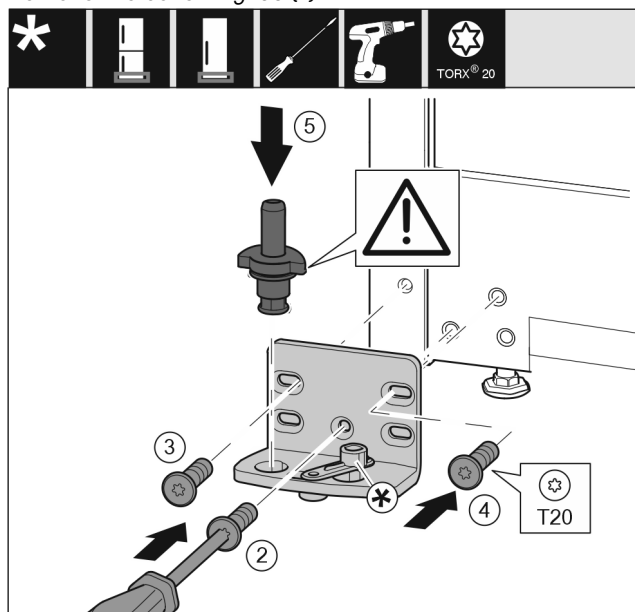

Fig. 36
- Place the bearing bracket on the other side and screw it on with a T20 screwdriver. Start with screw 2 at the bottom in the middle. Fig. 36 (2)
- Screw in screws 3 and 4 tightly. Fig. 36 (3,4)
- Insert the bearing pin completely. Make sure that the latching lug is pointing to the rear. Fig. 36 (5)
- Place the bearing bracket on the other side and screw it on with a T20 screwdriver. Start with screw 2 at the bottom in the middle. (2)*
- Rotate the soft stop connection 180°. Screw it in with a T20 screwdriver on the other side of the bearing bracket. (5)*
- Insert the bearing pin completely. Make sure that the latching lug is pointing to the rear. (6)*